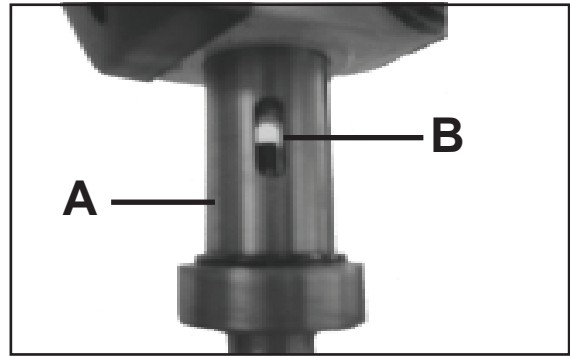

Figure 14
2. Lower the spindle until the slot in the spindle is exposed. (Fig.14)